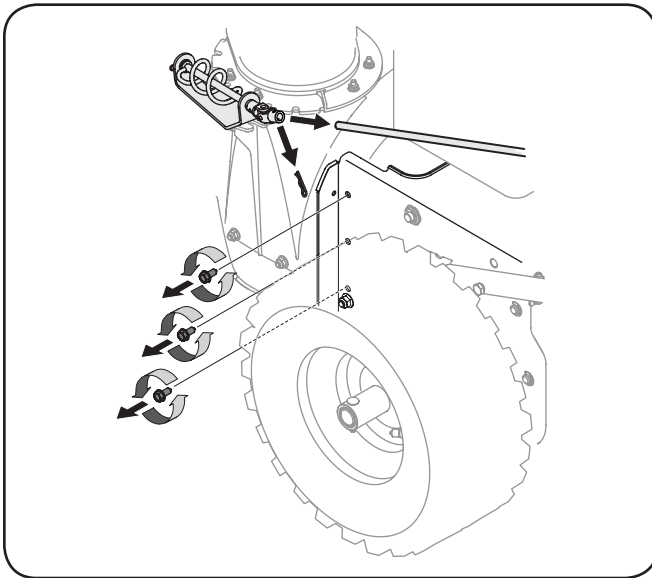

Figure 7-1
1. Remove the chute crank rod from the chute crank assembly by removing the hair pin clip shown in Fig. 7-1. Move the chute crank rod away from the assembly as shown.
4. From both sides of the frame assembly, use a 1/2" wrench to remove the three hex tap screws securing the transmission frame to the auger housing assembly. Refer to Fig. 7-1. **NOTE:** Do not remove the lower hex flange lock nut on each side.